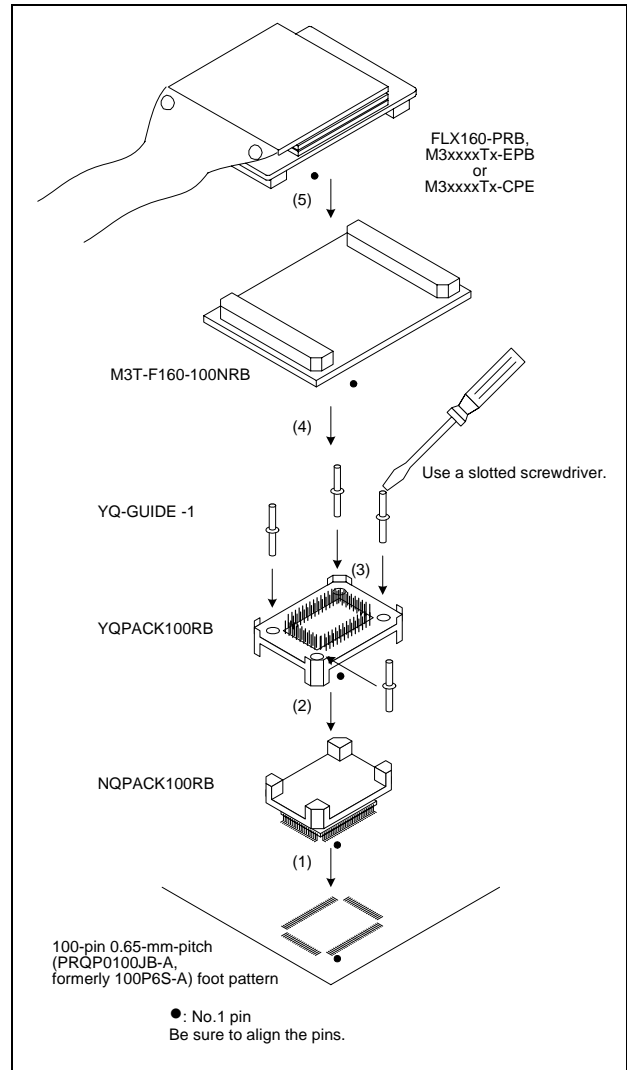

Figure 3 Connection procedure of the M3T-F160-100NRB
5. Connection Procedure (See Figure 3)